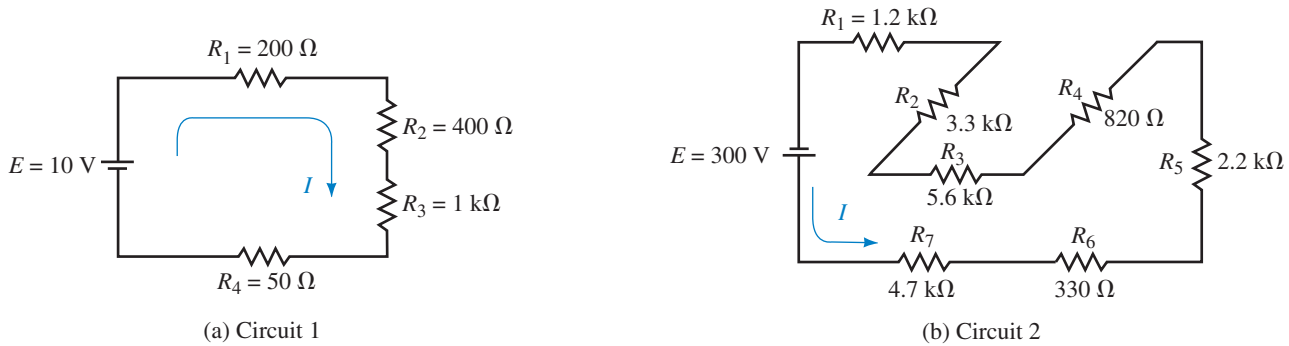

FIGURE 5–55
12. The circuits of Figure 5–56 have the total resistance, R_T , as shown. For each of the circuits find the following: